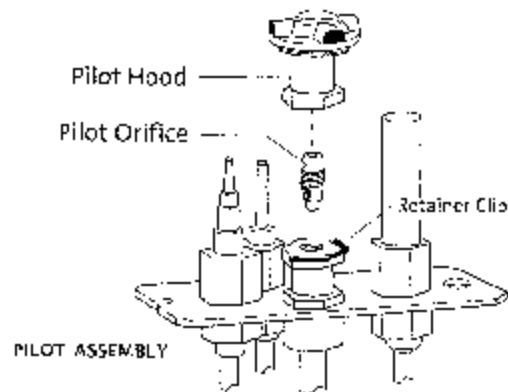

Figure 32. Pilot Orifice replacement.
- FROM WITHIN THE FIREBOX disengage the Pilot Hood by releasing the retainer clip as shown in fig. 32. Using the 4 mm hex key supplied, unscrew the pilot orifice (counterclockwise). Replace with the appropriate orifice: